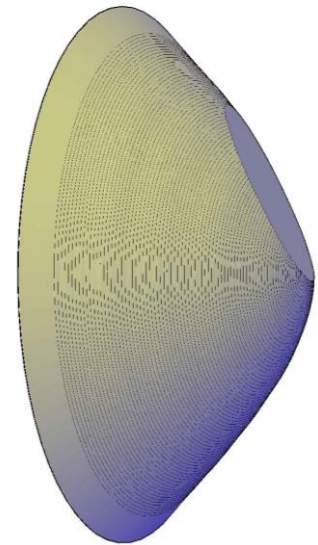
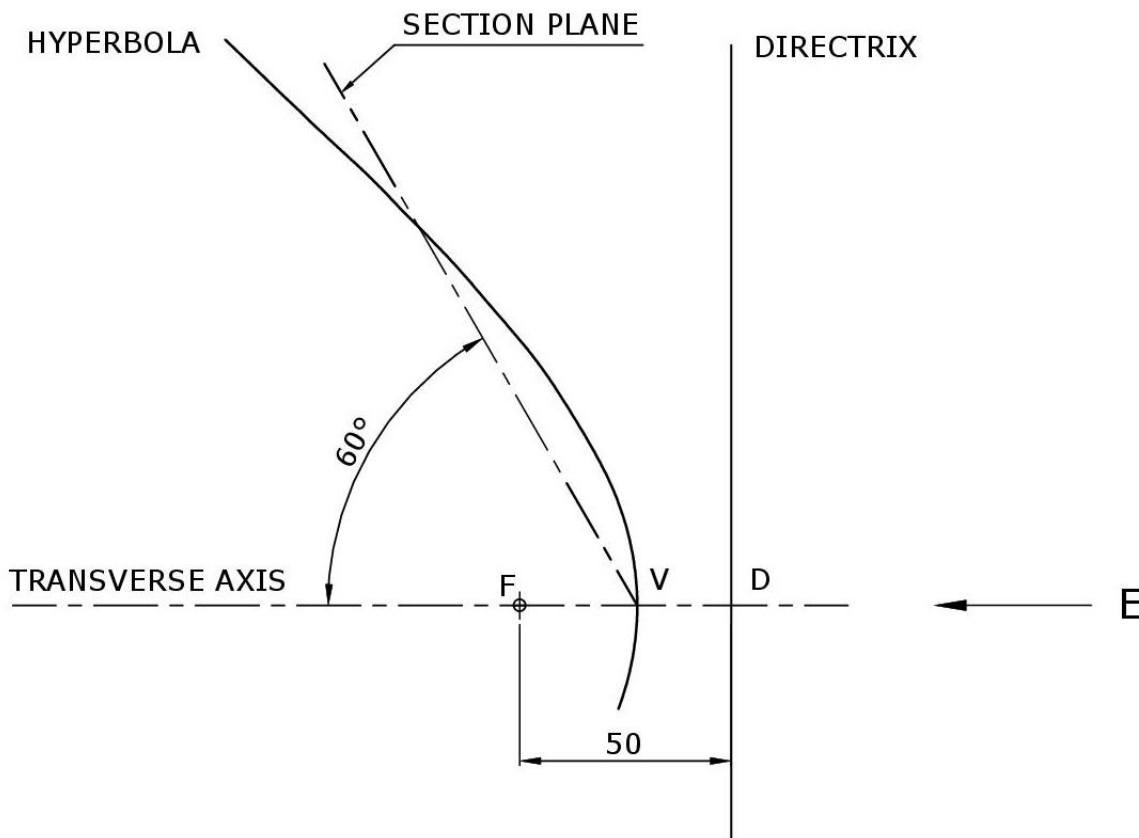

Figure 2a
Figure 2b
2. Part of a hyperbolic curve, a transverse axis and a vertical line representing the directrix are shown in Figure 2b. The point F indicates the position of the focus on the axis and V is the vertex of the conic curve.
- a) Plot, full size, the conic curve using an eccentricity of 5:4 for the hyperbola. Draw the hyperbolic curve on the upper part of the transverse axis and show the constructions. (6)
- b) Revolve the curve about the horizontal axis to generate a solid of revolution (hyperboloid). An inclined section plane passes through the vertex and cuts the front part of the solid as shown in Figure 2a and Figure 2b.
- i) Project an end view as seen from the right-hand side (in the direction of arrow E) of the upper half of the solid, showing the section. (7)
- ii) Draw the true shape of the intersection between the inclined plane and the solid of revolution. (7)